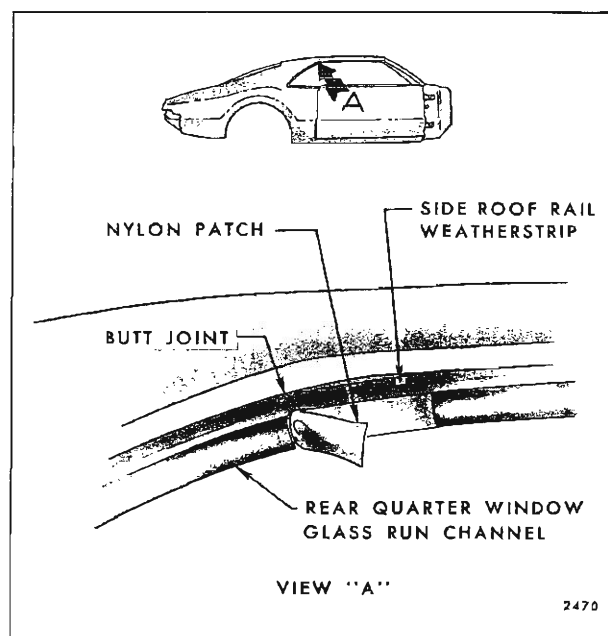

Fig. 6-12—Side Roof Rail Weatherstrip Replacement -
1. With a sharp implement, sever the vulcanized joint and remove front section of side roof rail weatherstrip as outlined in the preceding procedure. The service weatherstrip is equipped with a nylon patch, half of which is cemented in place (Fig. 6-12). The other half is to be cemented over the rear section of side roof rail weatherstrip (over quarter window) as directed in Step #3.
3. With an approved neoprene cement, install remainder of nylon patch (Fig. 6-12) to cover butt joint.